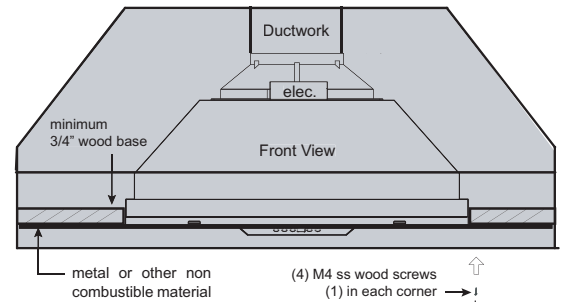

FIG 2
5. Lift Power Pack into opening and secure to bottom of cabinet using (4) M4 stainless steel screws, (1) in each corner; see FIG 2.